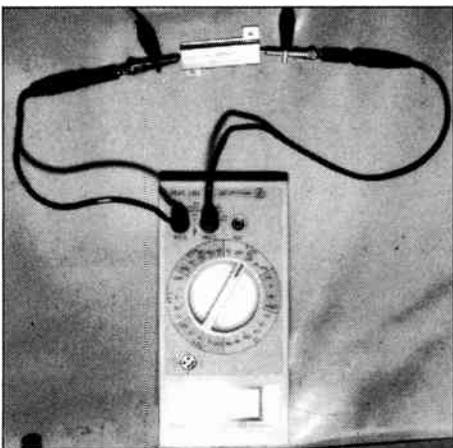

Fig. 8. Typical analogue multimeter.
Fig. 8. Front-panel designed for the milliohmmeter. For technical reasons, the meter scale is reproduced in black here, although it is really white. The scale can be cut out of the self-adhesive foil, to replace the one that comes with the moving-coil meter.
The first kind includes most low-priced multimeters, a typical example of which is shown in Fig. 8. One of the quality criteria of these instruments is their characteristic resistance, which is expressed in ohms per volt. The internal resistance, R_{in} , is calculated by dividing the characteristic resistance (Ω) by the full-scale deflection (V) of the relevant